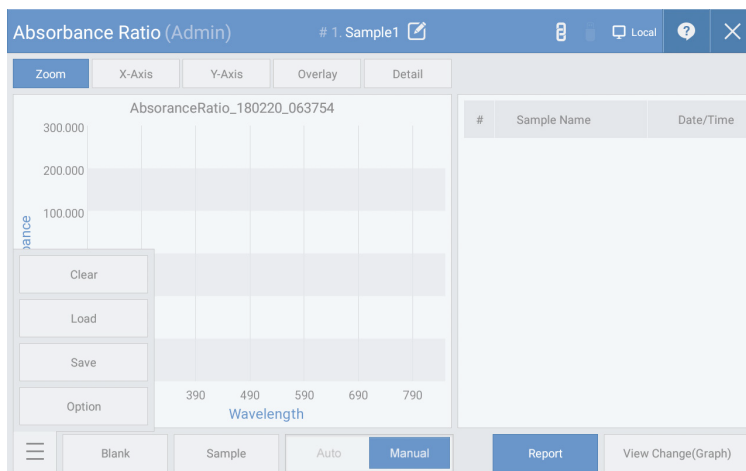

Fig. 3.9
1. Click the "Settings" button in [Fig. 3.9] to set the measurement environment.
2. Load the blank sample and click "Blank" shown in [Fig. 3.9] to measure the zero point.
4. Load the sample and click the "Sample" button shown in [Fig. 3.9] to begin measurement.